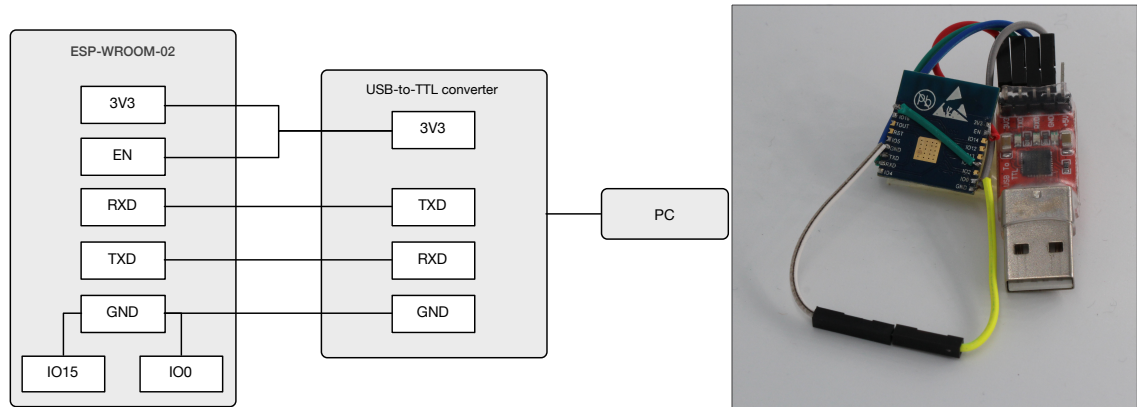

Figure 2-1. ESP-WROOM-02 Download Mode
2. Connect ESP-WROOM-02 to USB-to-TTL converter using Dupont lines as shown in Figure 2-1.